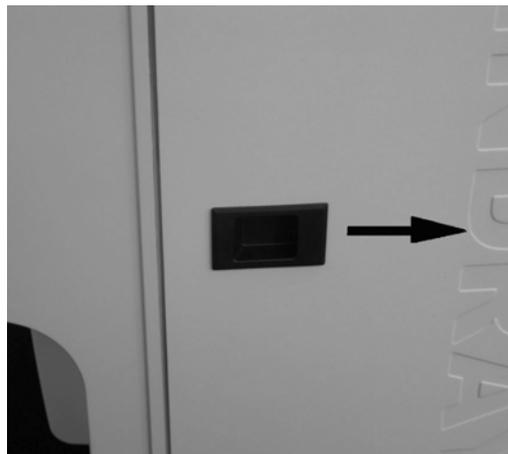

Figure 4-1
1. Push the right door latch in the direction indicated in Figure 4-1 to open the right door;